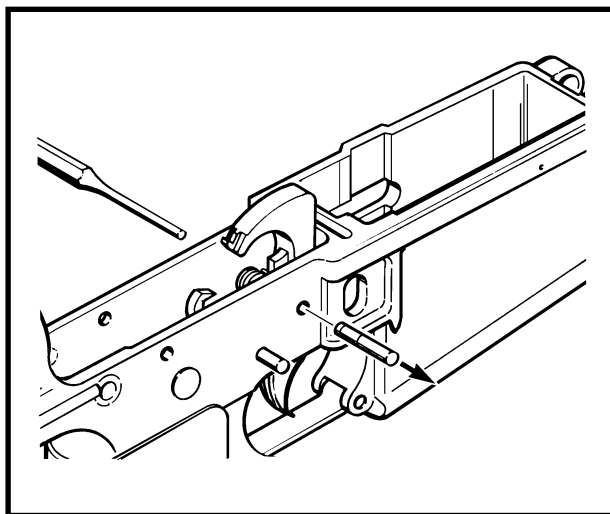

Figure 3-2-46 Removing the Hammer Pin
- (1) Push out the hammer pin, from the left side, with a suitable punch. See Figure 3-2-46;